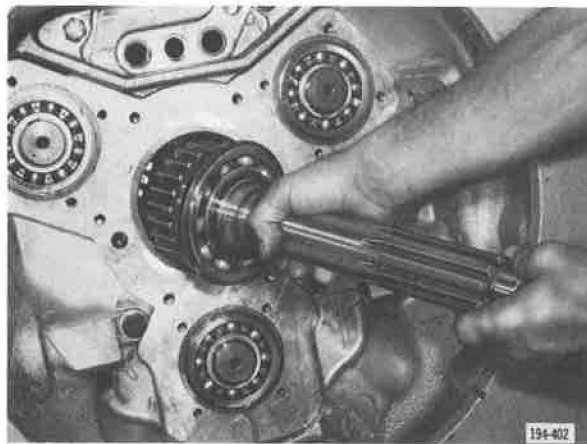

Figure 5-501. Installing Main Drive Pinion
4. Install main drive pinion assembly into place. See Figure 5-501.